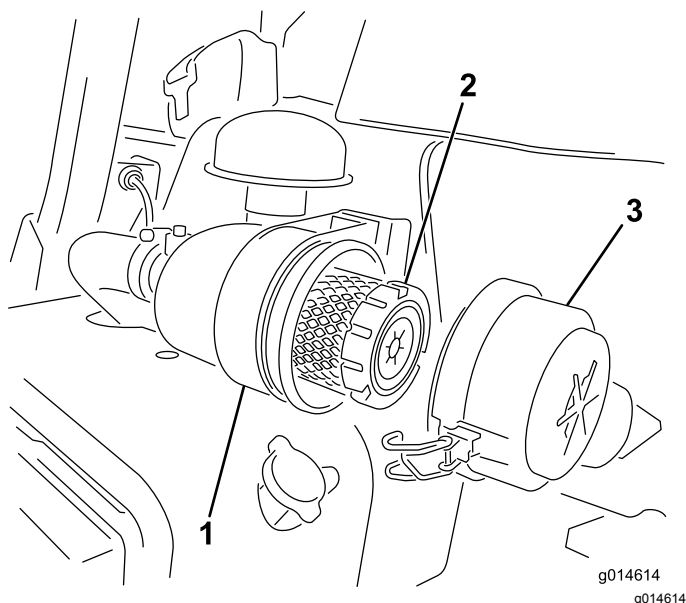

Figure 41
1. Release the latches securing the air cleaner cover to the air cleaner body (Figure 41).
6. Secure the latches (Figure 41).